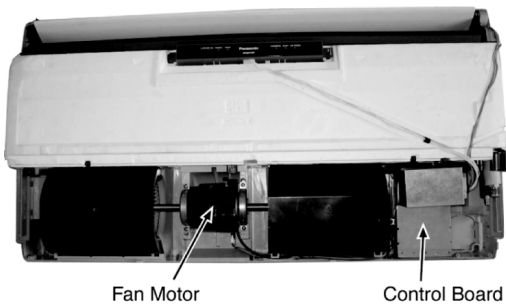

Fig. 3
3. Fan Motor and Control Board (Fig. 3).
3. Release the following parts (Fig. 3):